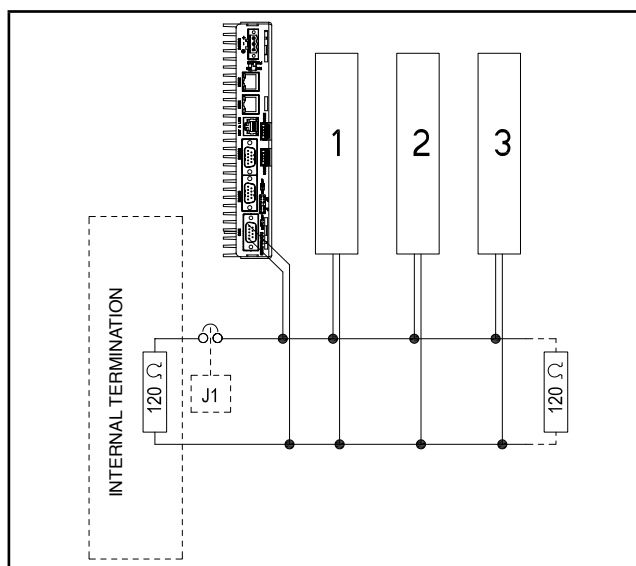

Figure 23 - CAN bus line termination
**Warning:** The CAN port has a line termination. If the CPU module is the last or the first device on the CAN line, you have to insert the termination (120  $\Omega$  resistance, 1/4 W, 5%) by setting jumper J1 as shown in figure 23. Remember that the CAN bus must be terminated at both ends.